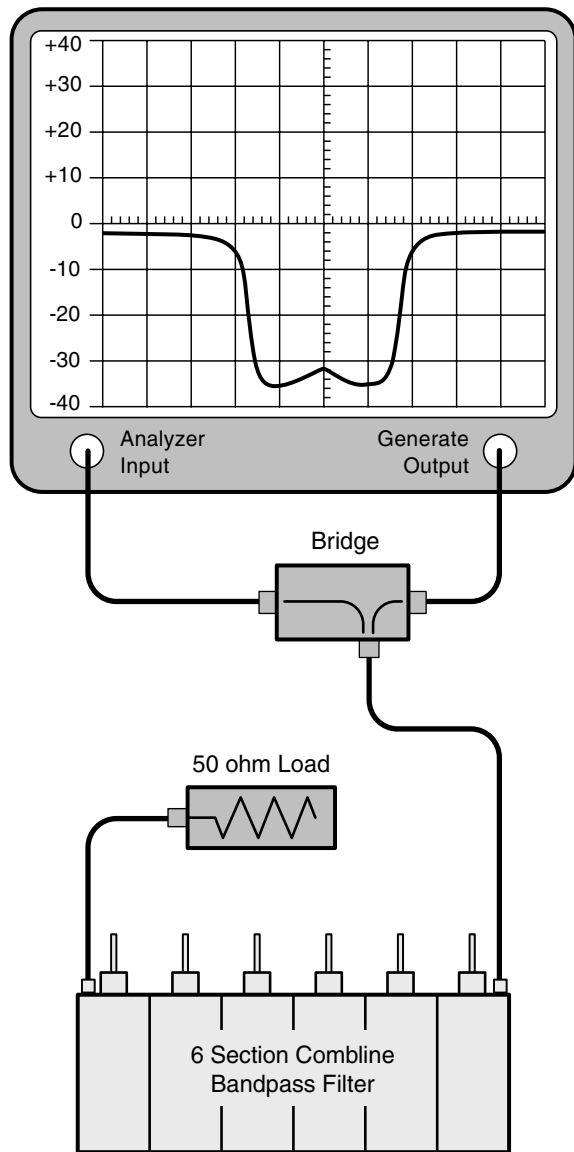

Figure 3: Measuring return loss.
- 7) Connect the equipment as shown in figure 3. Make sure that the return loss curve provides adequate performance (better than -15 dB) over the range and is relatively symmetrical. Fine adjust the tuning rods to adjust symmetry.